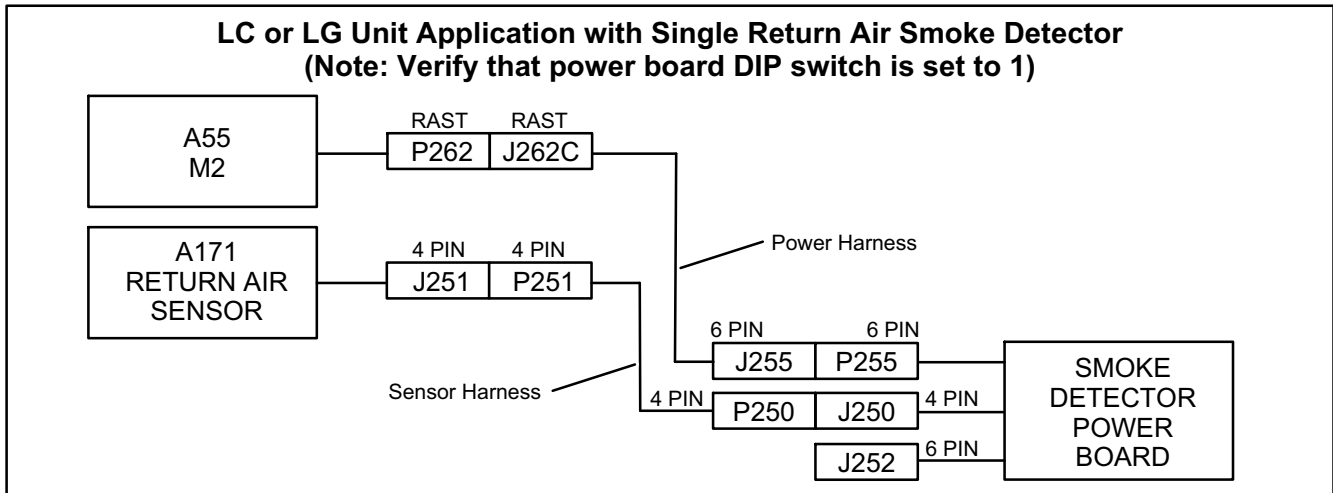

FIGURE 9
- 3 - Make jack/plug connections as shown in figure 9